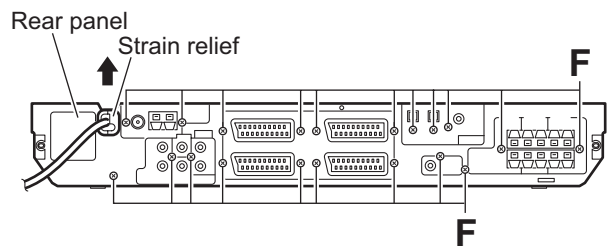

Fig.7
3.1.4 Removing the rear panel (See Fig.7)